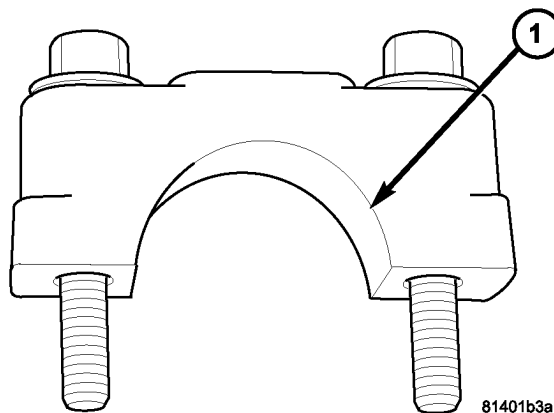

Fig. 2 CAMSHAFT BEARING CAP
3. Lightly chamfer the two bore radius edges with a small hand file, creating a 45° chamfer 1.0 to 1.5 mm in width along the edge of each bore radius (Fig. 2).